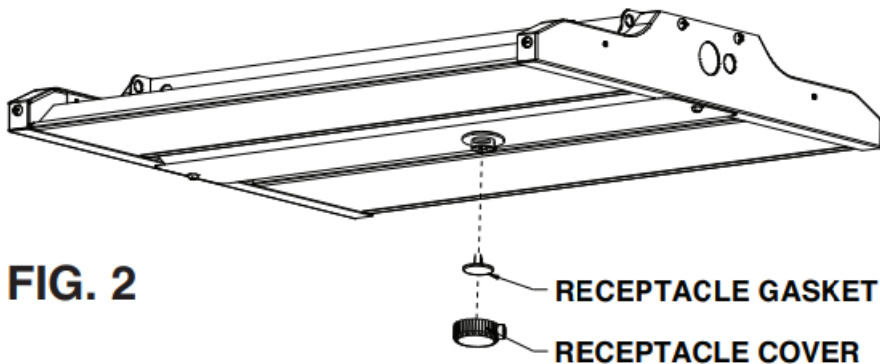

FIG. 2
2. Remove the USB-C receptacle cover by turning it 90° (see FIG. 2).